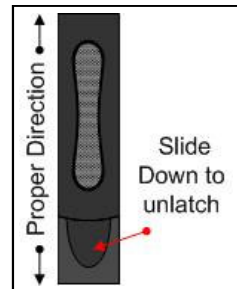

Figure 2—Drive Carrier
- Release the drive carrier handle by sliding the latch downward to the unlocked position (as shown in Figure 2) and pivoting the handle to the upright position.